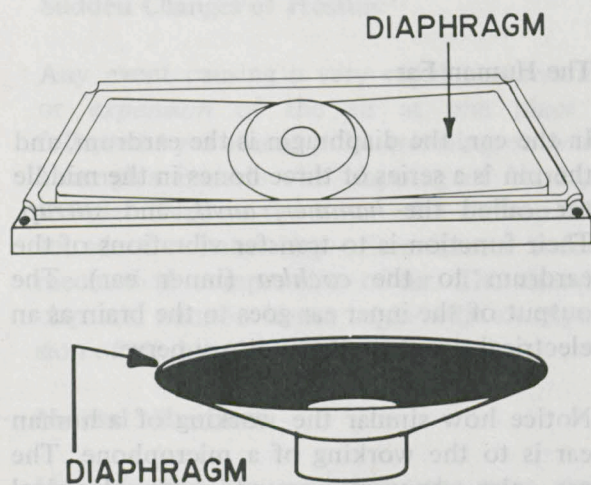

Figure 10.
1. *Examine your speaker carefully.* Identify the various parts shown in Figures 10 and 11. By comparing your speaker with the figure of an ordinary cone loudspeaker, shown previously, you can see that, while the construction is basically the same, the planar speaker is simpler and more rugged.